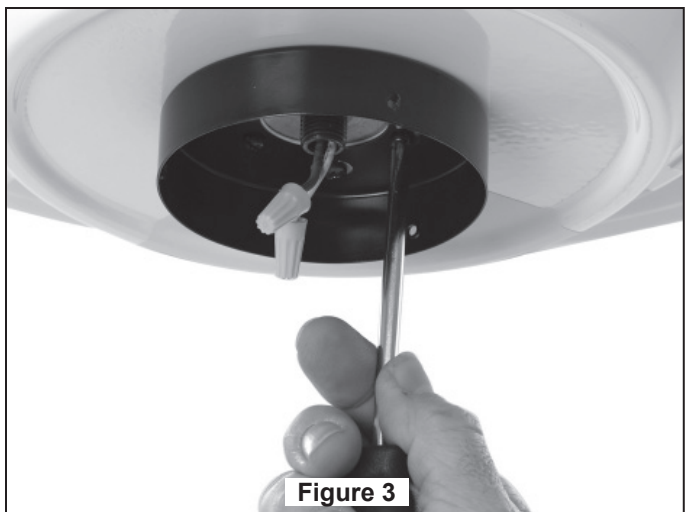

Figure 3
4. Carefully lift the fan and seat the downrod/hanger ball assembly on the hanger bracket that was just attached to the ceiling joist. Be sure the groove in the ball is lined up with tab on the hanger bracket. (Figure 3)
5. Attach the safety cable to ceiling support cable. Slide cable clamp onto safety cable (from fan). Place the end of cable through the loop of ceiling support cable. Pull as much cable through loop as possible. Feed end of cable into clamp hole and firmly tighten screw (Figure 3). Cut off excess safety cable.
- Connect wires as indicated: (Figure 3)